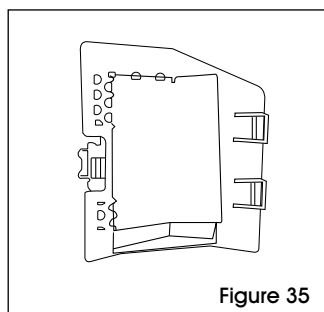

Figure 35
1. The HexaGuard™ filters are located on the inside of the filter door. Pull to remove. (See Figure 35)